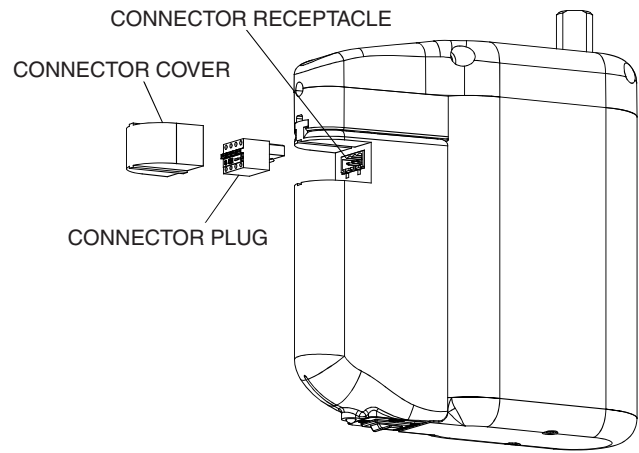

Figure 30
3. Refer to Figure 30, and PLUG connector into receptacle on battery pack.